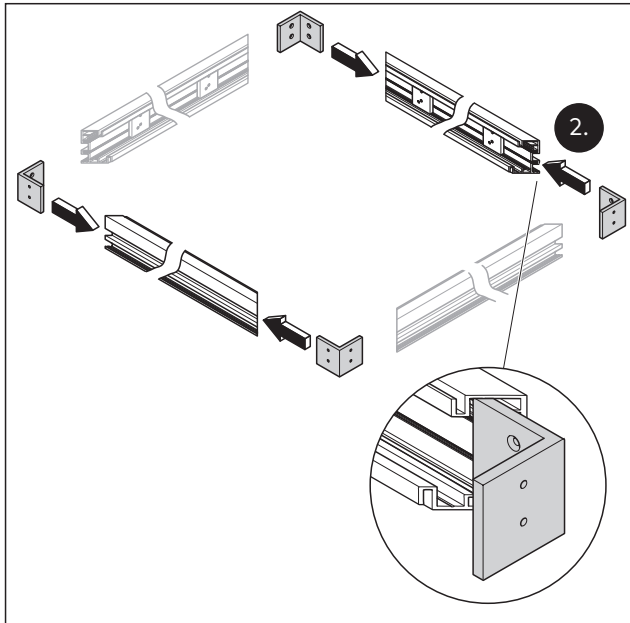

Fig. 16 Insert the angle pieces into each horizontal section
2. Insert the angle pieces into each horizontal section (Fig. 16).